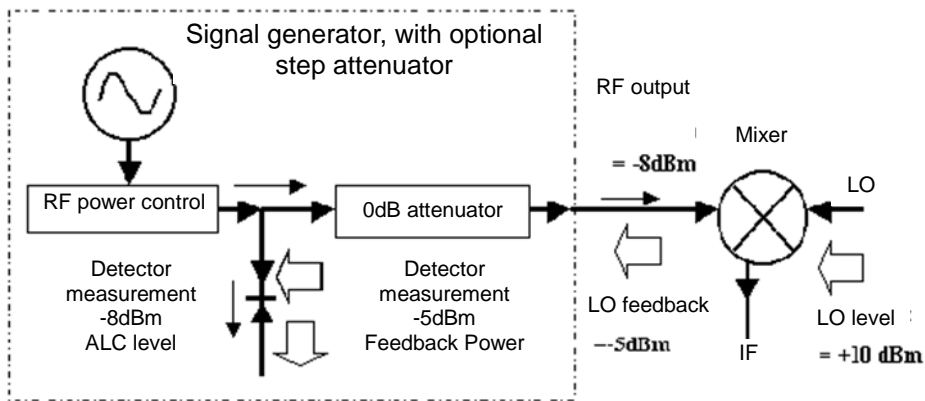

Figure 4.13 Reverse power effect, -8dBm coupling output
Attenuators are manually used for mixer testing. In the example shown in Figure 4.13, the output power of the signal generator is -8dBm. In the internal level control mode, the attenuator attenuation is set to 0dB. Set the ALC power level to -8 dBm. The local oscillator (LO) drive of the mixer is +10dBm. The isolation between the local oscillator (LO) and the RF output of the signal generator is 15dB. The power fed by LO to the output end of the signal generator is -5dBm, which passes through the attenuator without loss to the internal detector.